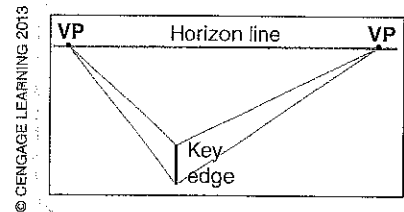

Figure 5-53: Connect the ends of the key edge to both vanishing points.
- Step 2. Draw a light line from the top and bottom of the key edge to each vanishing point (see Figure 5-53).